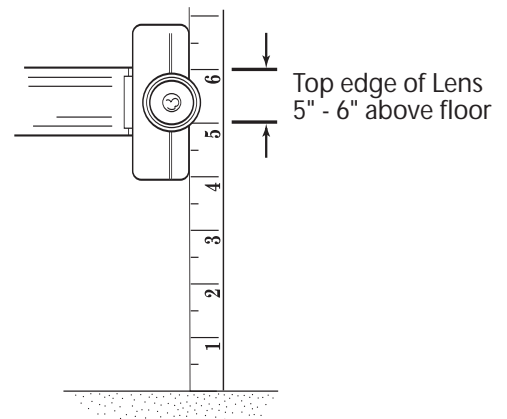

Figure 26 Final Check Safe-T-Beams®
- Check final height of Lens (**Figure 26**).